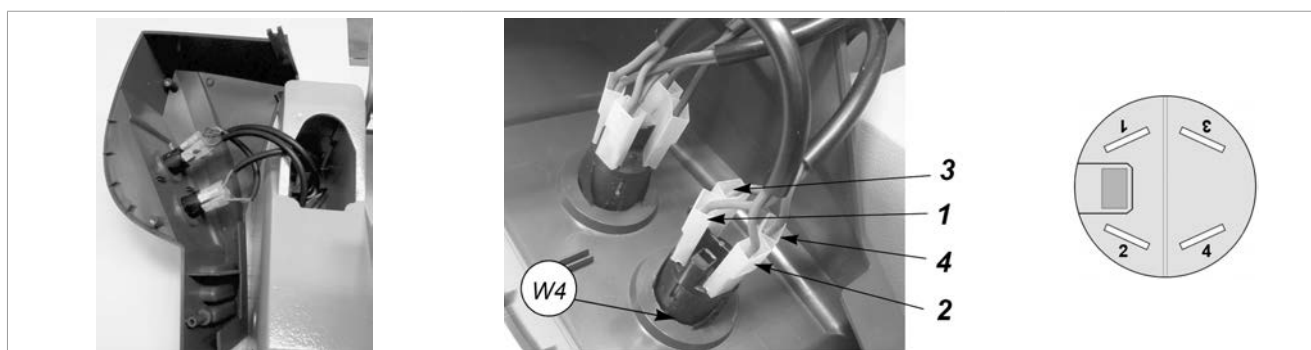

Fig. 39
- 9) Raise the left-hand cover to gain access to the switches (Fig. 39).
- 10) Remove the connectors (1, 2, 3, 4), paying attention to their positions (Fig. 39).